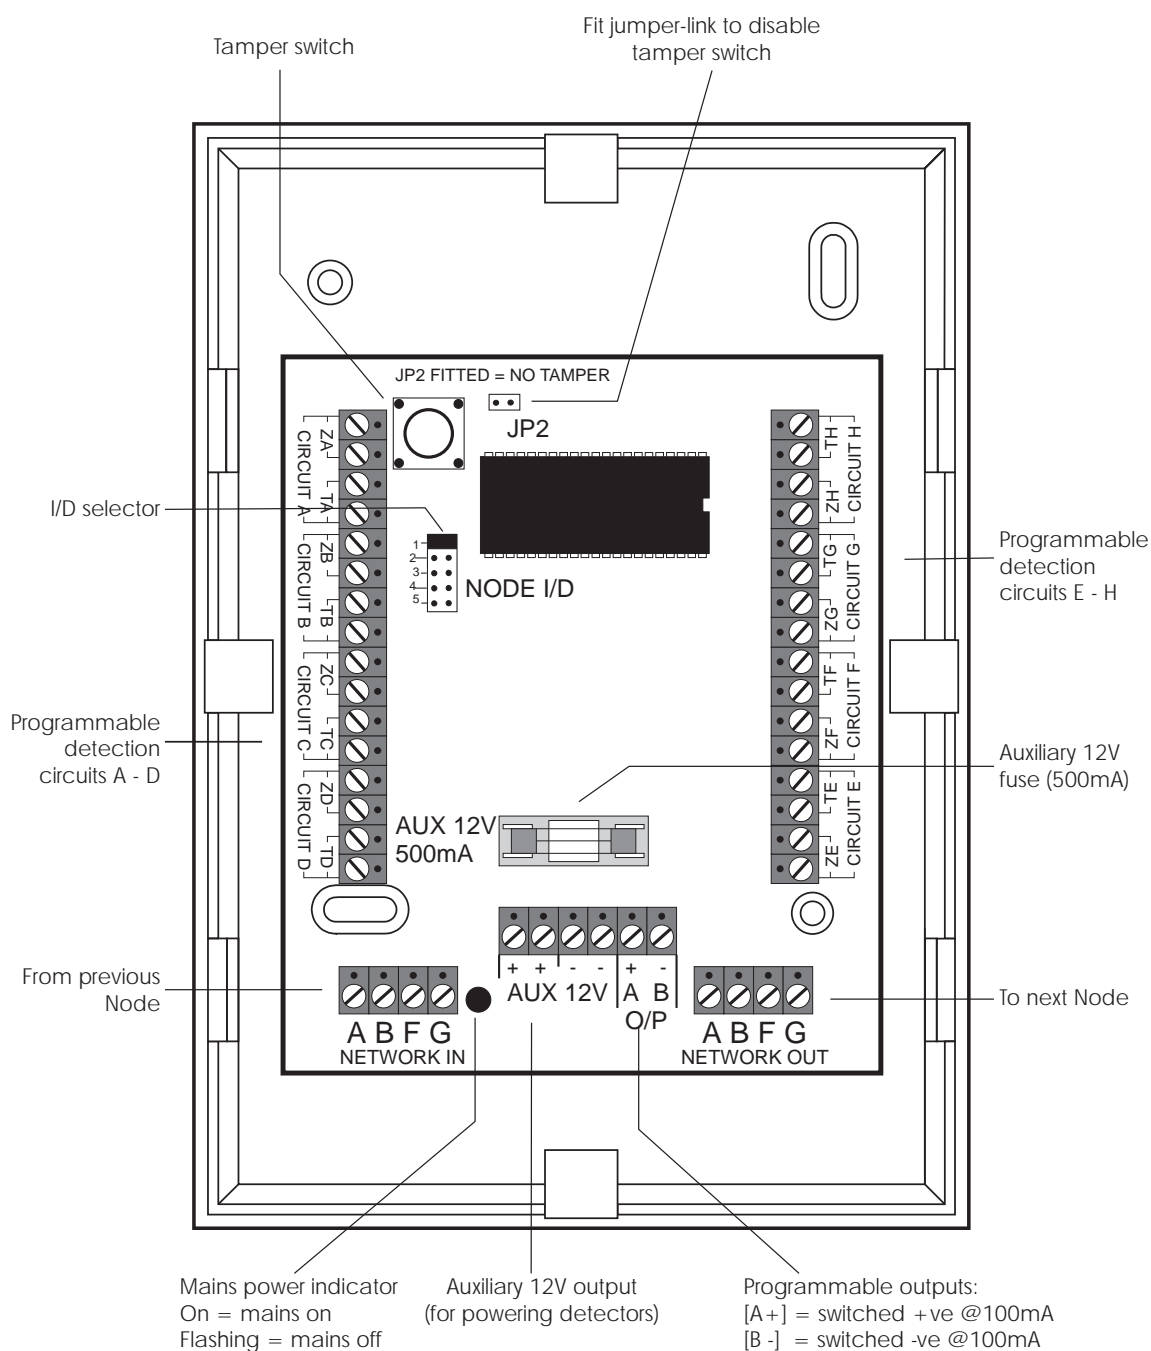

Figure 13 TS900 Node Layout
2. If the Node is being fitted inside the control panel you may remove the Node PCB from its base and secure it to base of the control panel using self adhesive feet. If required, the tamper switch may also be disabled by fitting the jumper link across JP2, see Figure 13.
4. Connect "Node Network" cables and detection circuit cables to the appropriate terminals, see Figure 13.